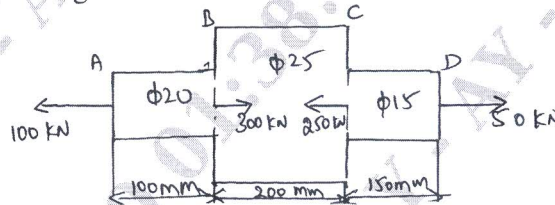

Fig.Q2(b)
- Determine the stresses in various segments of circular bar shown in Fig.Q2(b). Compute the total Elongation taking Young's modulus = 195 GPa.